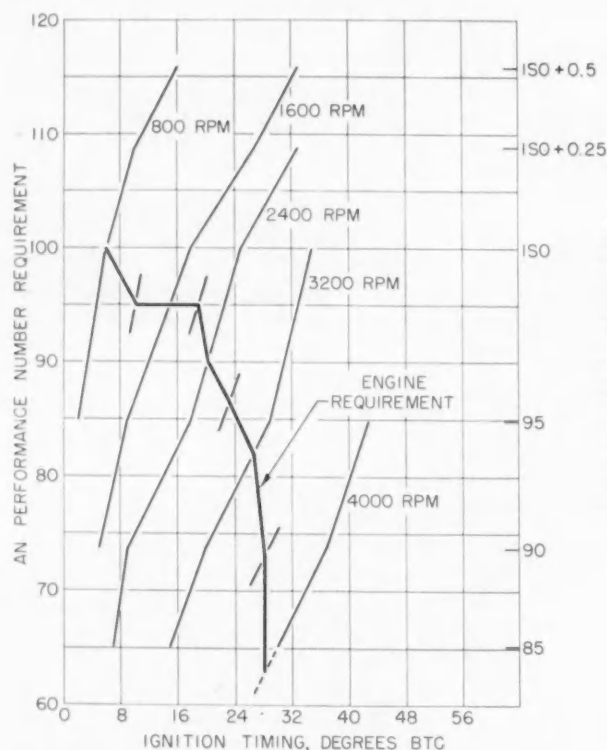

Fig. 1—Determination of the high compression engine requirement, at 10 to 1 compression ratio, using primary reference fuels
0.25 ml TEL per gal increments were used to obtain a borderline framework, an example of which is shown in Fig. 1, for the 10:1 compression-ratio heads. Iso-speed lines result when ignition timings for borderline knock are plotted against Army-Navy performance number at a given engine speed. Upon this framework the ignition timings (either maximum power or any desired distributor curve) may be plotted and the performance-number requirement for each speed thereby determined.
This procedure is illustrated in Fig. 1, where the heavy solid line is the so-called normal distributor curve which indicates the engine requirement over the speed range with this ignition timing. Also, ignition timings to produce trace knock on the test fuels at the various engine speeds may be plotted in the same manner and the engine rating of these fuels thus obtained.